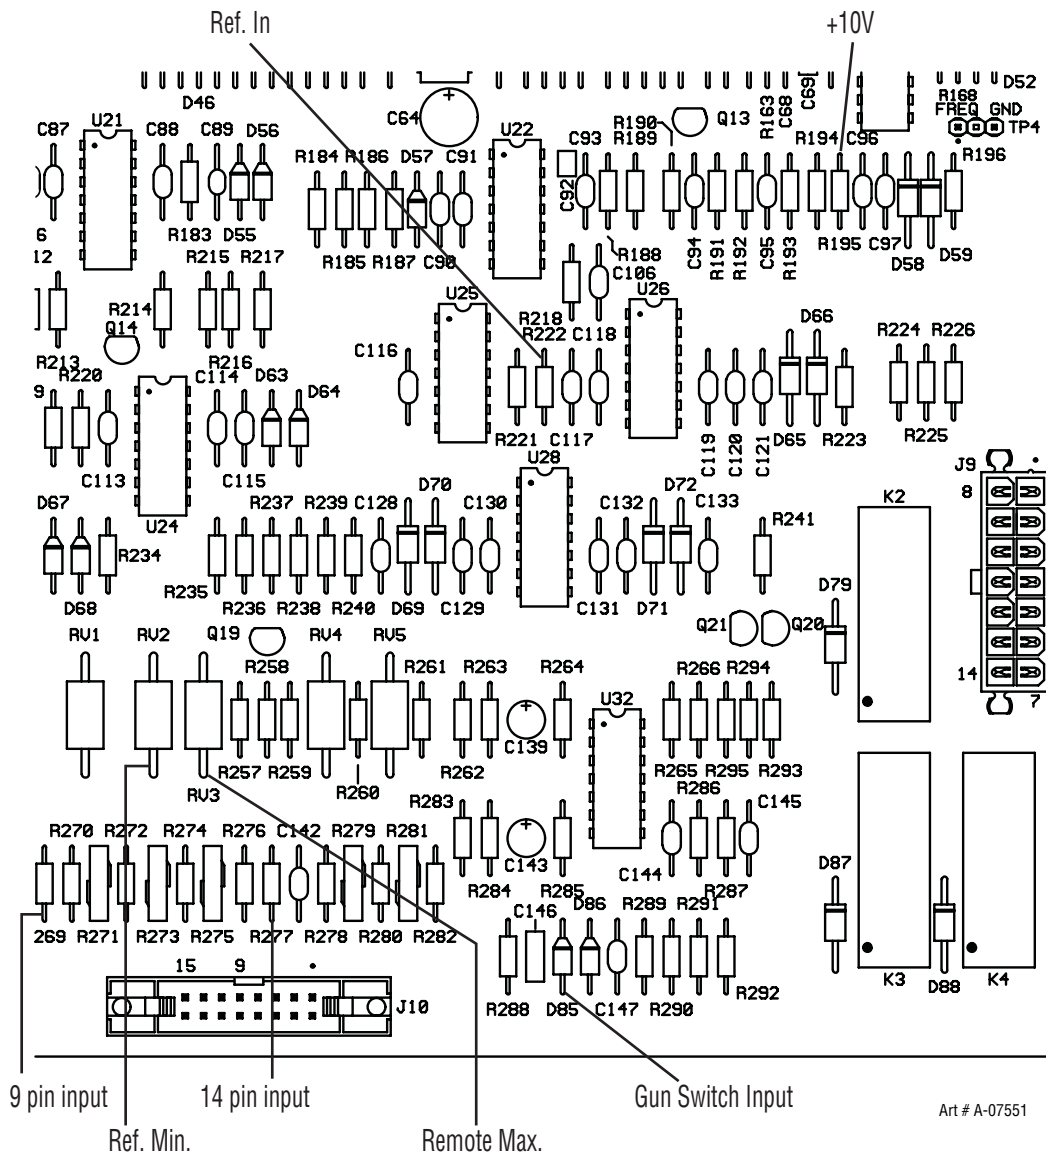

Figure 6-7: Reference Circuit
(See Figure 6-7 below)
- A. Gun switch input: D85-Anode +15VDC for gun switch on, 0V for gun switch off. (See Figure 6-7)
If either of these are not correct, then verify that the main board is providing the correct voltage at RV3 (see Figure 6-7) for remote max. This voltage should be 10VDC all the time for GMAW mode, and should vary from 0.1 to 10VDC for GTAW mode as the front panel control is varied from min. to max.
If RV3 is ok, then verify that the remote signal is making it to the main board from the amphenol board. The input from the 19 pin remote is at R269, and the input from the 14 pin remote is at R276. (See Figure 6-7)